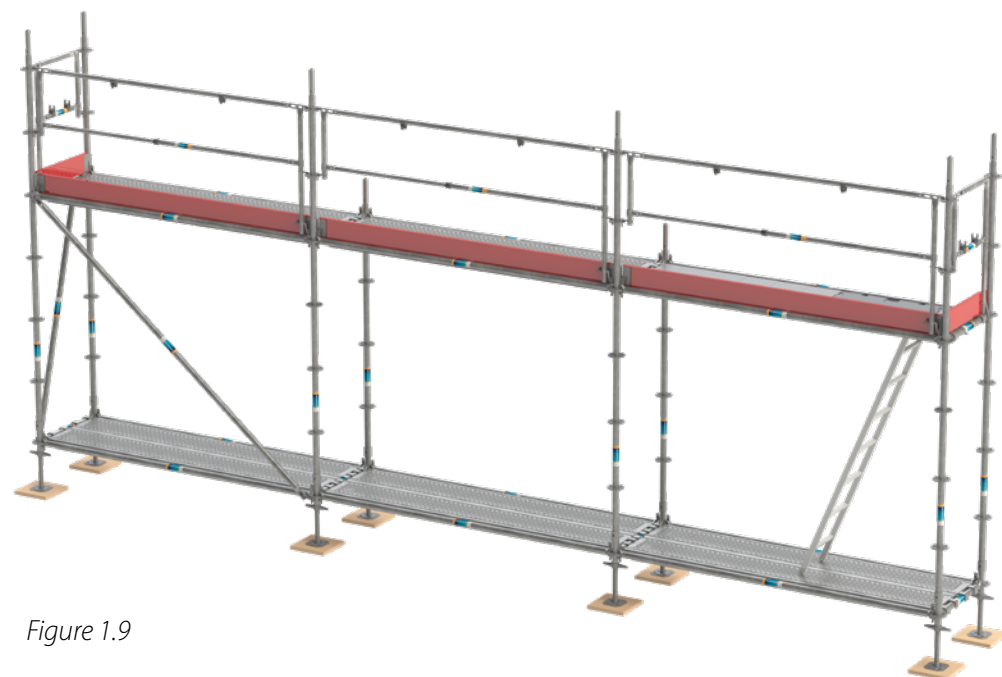

Figure 1.9
1.2.11 Place steel decks/ladder platforms on the first lift level from below. Then proceed to the secured first level and place the toe boards (see figure 1.9).